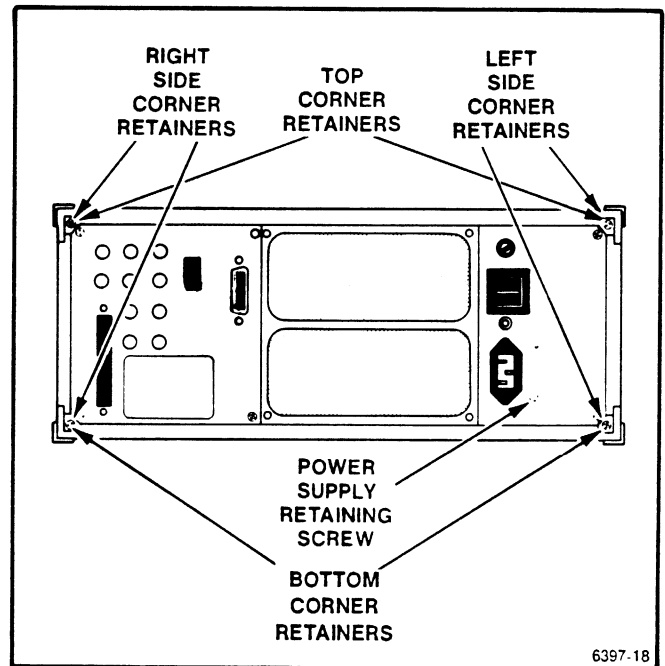
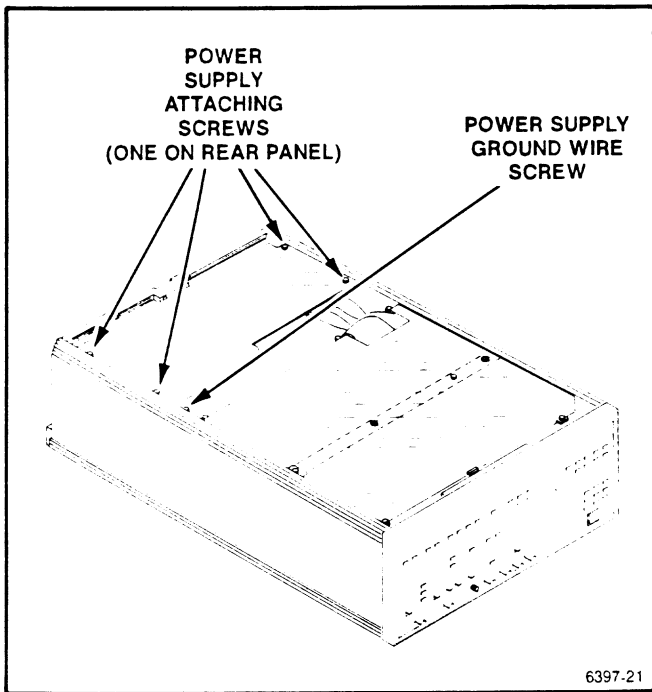

Fig. D-1. Cabinet cover removal.
Fig. D-3. Power supply removal.
1. Remove the attaching screws for whichever two (2) rear corner retainers are associated with the cabinet cover to be removed (Fig. D-1).
2. Remove the attaching screws for the two rear corner retainers associated with the right side cabinet cover (Fig. D-1).
3. Remove the five (5) power supply attaching screws (Fig. D-3). There are two (2) on the top at each side of the module. The other one is located on the rear panel near the lower right corner of the power cord receptacle (Fig. D-1).
4. Remove the ground wire attaching screw (Fig. D-3). The ground wire is a green/yellow wire located at the top left front corner of the power supply module.